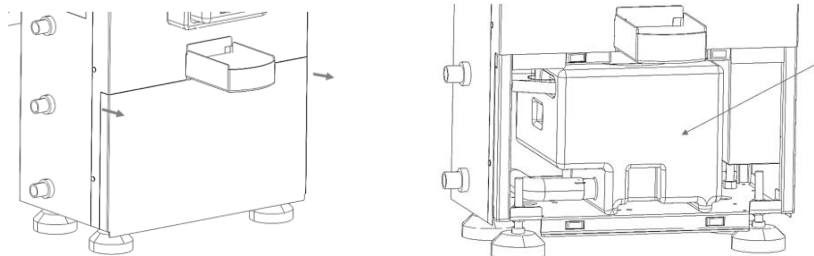

FIG.16
1. Remove the front cover following the arrows indicated in FIG. 16.